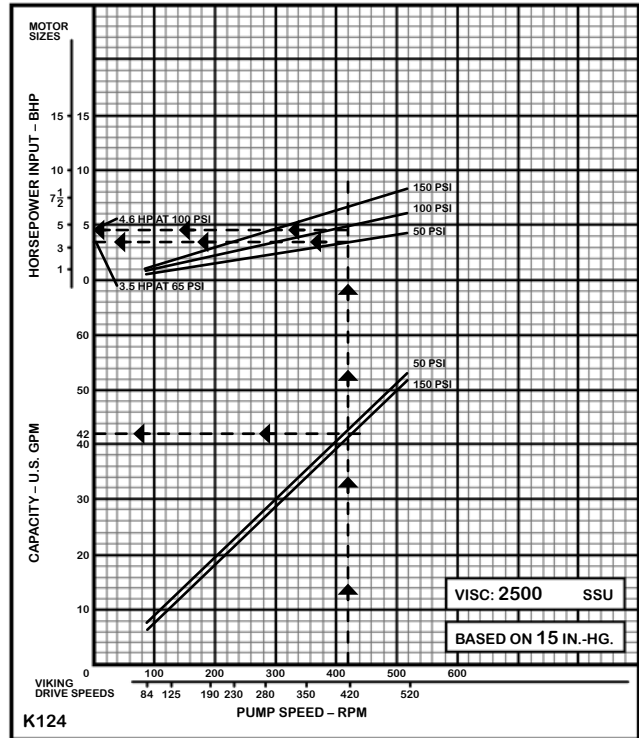

FIG. 12
size (“K”) was determined in Step 3; the *total* dynamic head of 101.93 (102) PSI was determined in Step 6 and to provide the best possible service life consider the 124 heavy-duty series pump. With this information in hand, the horsepower required can be determined from Figure 12. Since the 3,000 SSU is a maximum figure and not the normal operating viscosity and since the actual horsepower difference between a pump handling 3,000 SSU and 2500 SSU is very slight, there is no hesitation in using the performance data based on 2500 SSU. If there was a possibility that the viscosity could go significantly higher or if the *normal* viscosity was 3,000 SSU, then the conservative approach would be to use the horsepower from the performance curve for 7500 SSU. The 2500 SSU curve, see Figure 12, shows that the K124 operating at a pump speed of 420 RPM* will deliver about 42 GPM and at 100 PSI discharge** will require approximately 4.6 brake horsepower. A 5 HP motor would be used. The mechanical efficiency of the pump
** All performance curves in the pump selector are based on an indicated vacuum in inches of mercury. The pressure lines shown on the curves are for discharge port gage readings. The actual total dynamic head or differential across the pump is the sum of the vacuum and discharge pressure. For the curve in Figure 12, the vacuum (15" Hg) can be expressed as -7.35 PSIG. This, when combined with the 100 PSI, gives a total dynamic head across the pump of 107.35 (107) PSI. This is greater than the 102 PSI in the example and is thus conservative; therefore, it is logical to use the 100 PSI pressure line to determine the horsepower.
In Step 6 when a 2½" diameter discharge line was considered instead of a 2" line, the *total* dynamic head was determined to be 65.43 (65) PSI. From Figure 12 the horsepower is shown to be 3.5; a 5 HP motor would still be required.